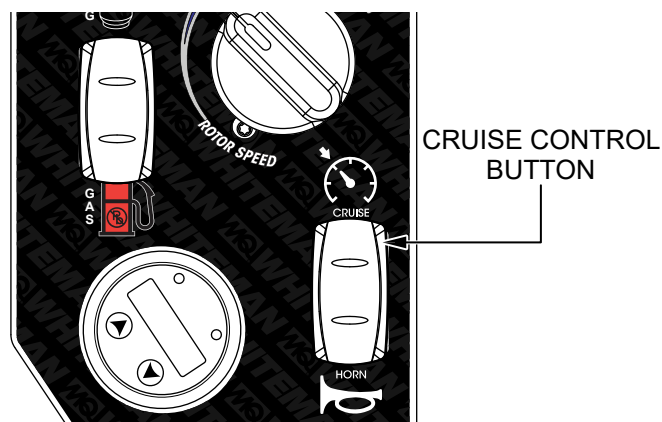

Figure 29. Cruise Control Button
2. Press the **cruise control button** (Figure 29).